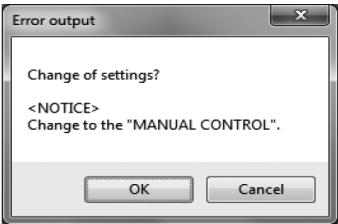

Fig.55
- ⑤ Once all the settings are complete, click the "OK" button to display the message box (Fig. 55).